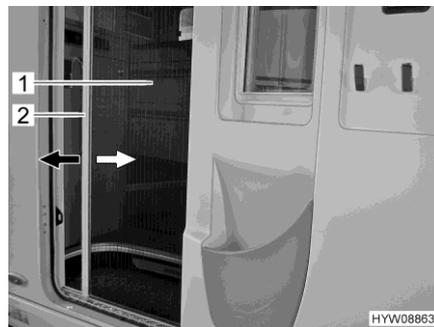

Fig. 37 Insect screen (conversion door)
- Hold holding bar (Fig. 37,2) with both hands and pull the insect screen (Fig. 37,1) evenly out of the door holder.
- Hold holding bar (Fig. 37,2) with both hands and push the insect screen (Fig. 37,1) back into the door holder applying slight pressure.